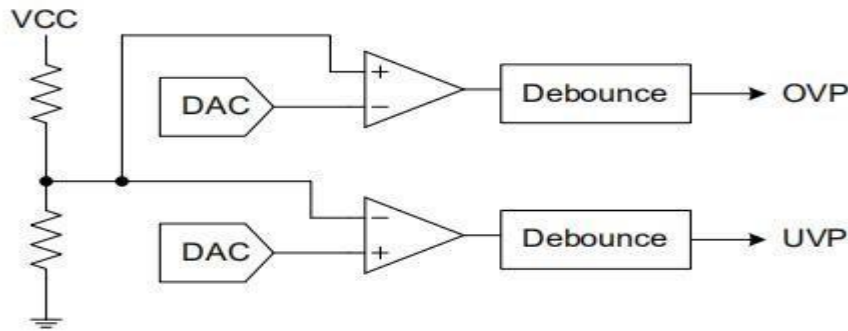

Figure 7.10.1
As shown in Figure 7.10.1, the VCC voltage is compared against a reference voltage generated by the DAC to produce over-voltage (OV) and under-voltage (UV) signals. Simultaneously, the MCU is interrupted, and the control signal (GATE) for the external load switch is removed, turning off the load switch.